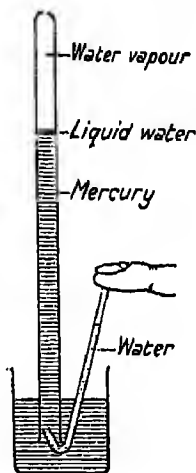

FIG. 261.
**Expt. 298.** Make a Torricellian barometer as you did in Experiment 39, but this time take care to have a fairly deep trough of mercury. Boil some distilled water until all the dissolved air is driven out. Fill a bent glass tube (Fig. 261) with this water after it has cooled and insert the end of the tube under the barometer tube. Allow a drop of water to rise through the column of mercury to the space above the column, taking care that no air enters. The water evaporates in the space and the level of the mercury falls. Allow a few more drops of water to rise to the top of the column until there is a layer of liquid water on the surface of the mercury. The space is now saturated with water-vapour, and the level of the mercury falls still more.